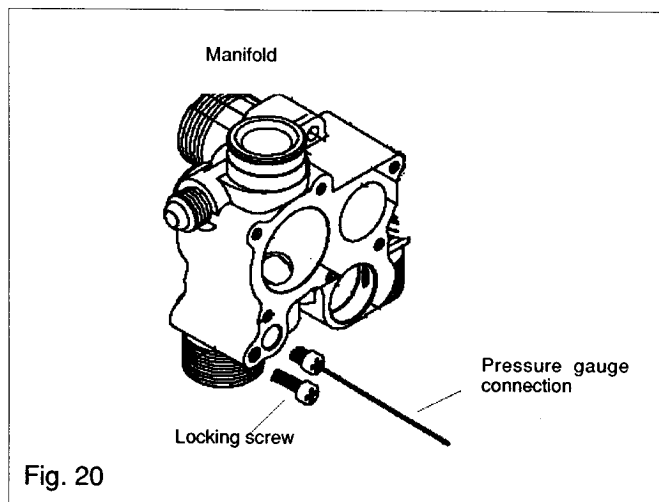

Fig. 20
6.8 PRESSURE GAUGE (see fig. 20)